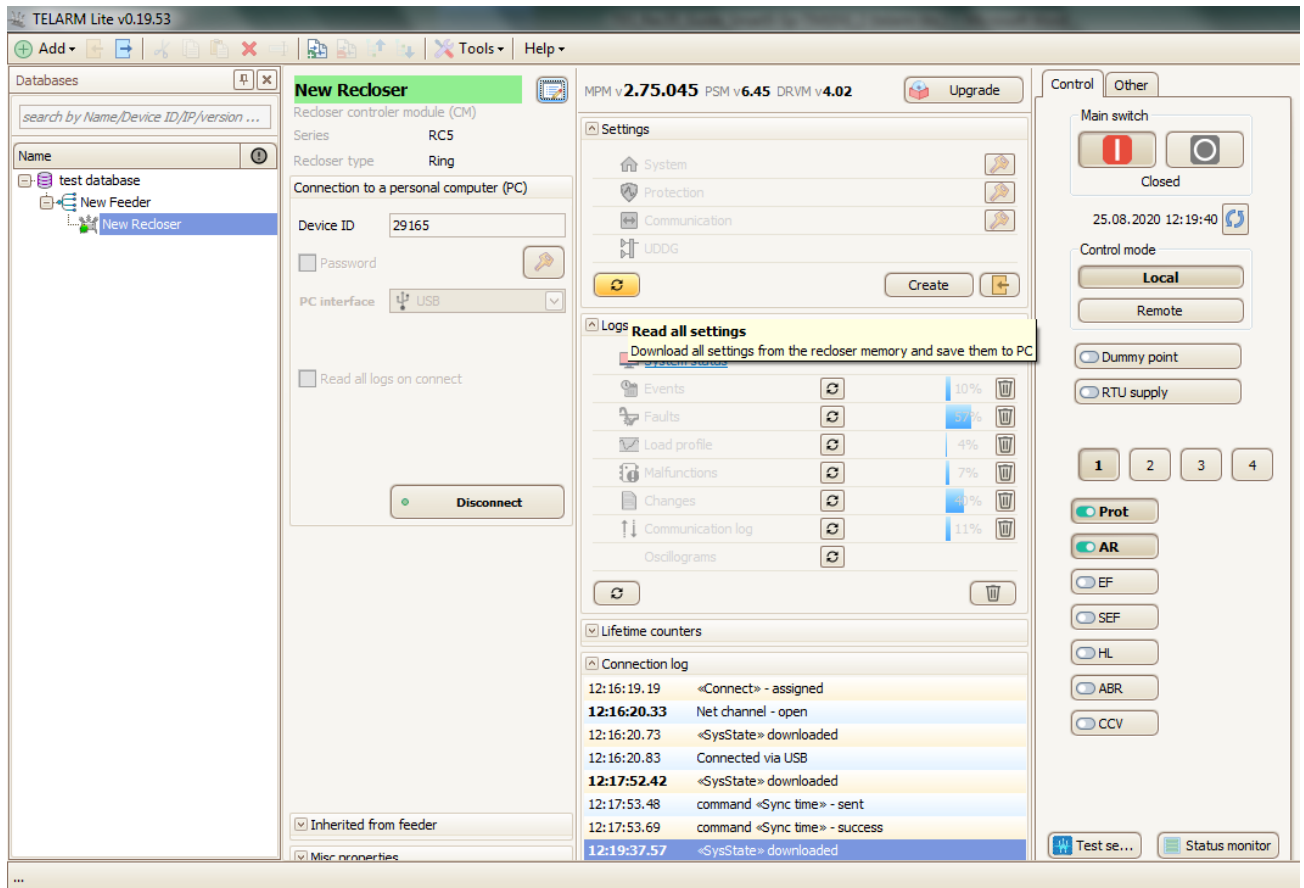

Figure 63
- 2) In the “Settings” tab, click the “Read all settings” button (Figure 63);